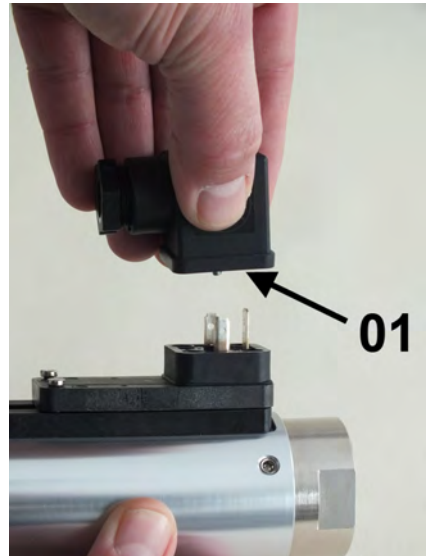

Fig. 23: Remove socket
2. ➤ Remove socket (Fig. 23/01).